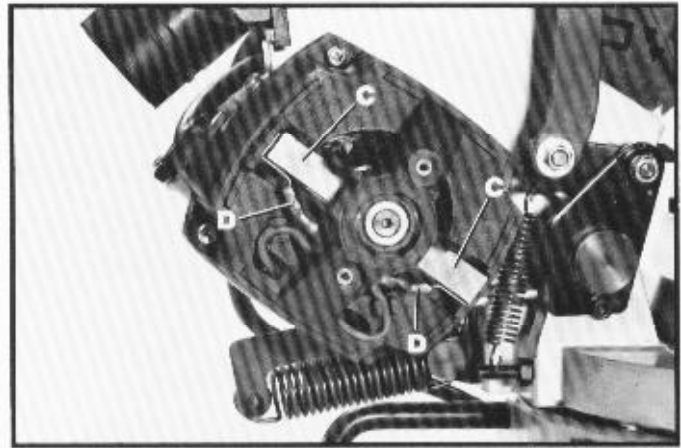

Fig. 65
2. The brushes are located in the two holders (C) Fig. 65. Remove spade type terminal connector (D) and pull out brush holders (C).